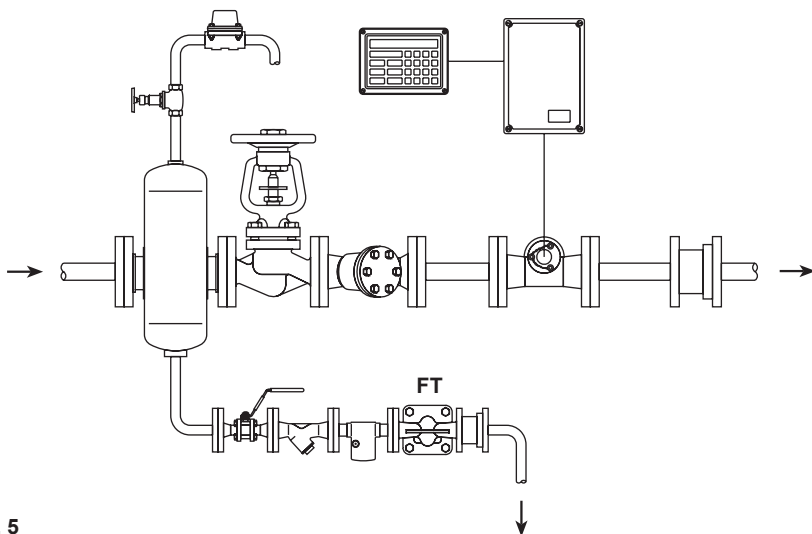

Fig. 5
- 3.5** The trap should be fitted below the outlet of the steam system, with a small drop leg immediately proceeding the trap, typically 150 mm (6") see Figure 5. If no drop leg is allowed for then it may be possible (under low load conditions) for steam to flow over the condensate in the bottom of the pipe and reach the trap.